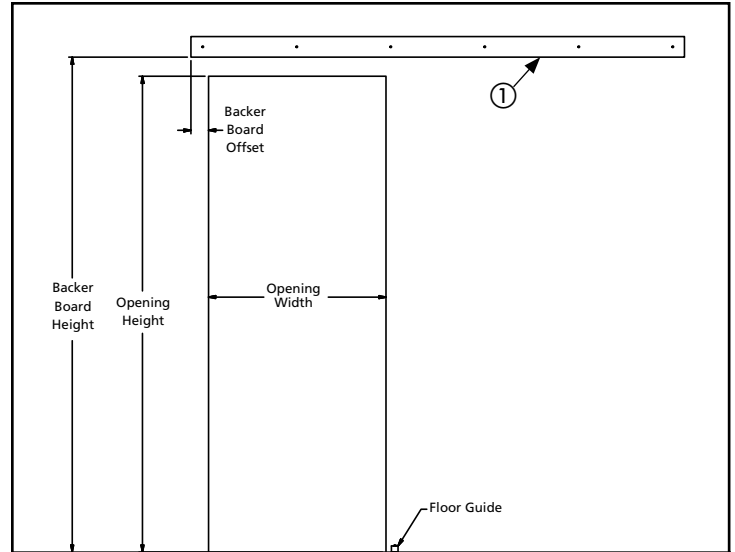

Figure 15. Backer Board Placement
1. Reference Figure 15 on Page 7, to determine the installation location of the floor guide, relative to open/closed positions of the system.